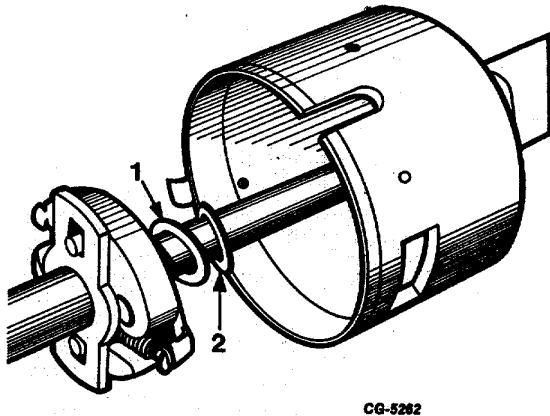

Fig. 17 Upper Thrust Washers (Distributors Without Tachometer Drive)
- 9. Withdraw distributor shaft assembly from distributor housing. Be Careful not to lose upper thrust washer(s) (Figures 17 and 18).